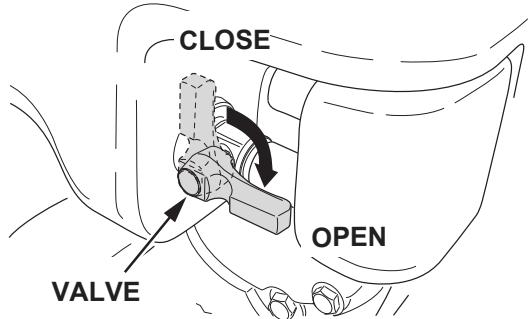

Figure 13. Water Tank Valve (Open)
1. If your application requires sprinkling work, open the valve of water tank (Figure 13).